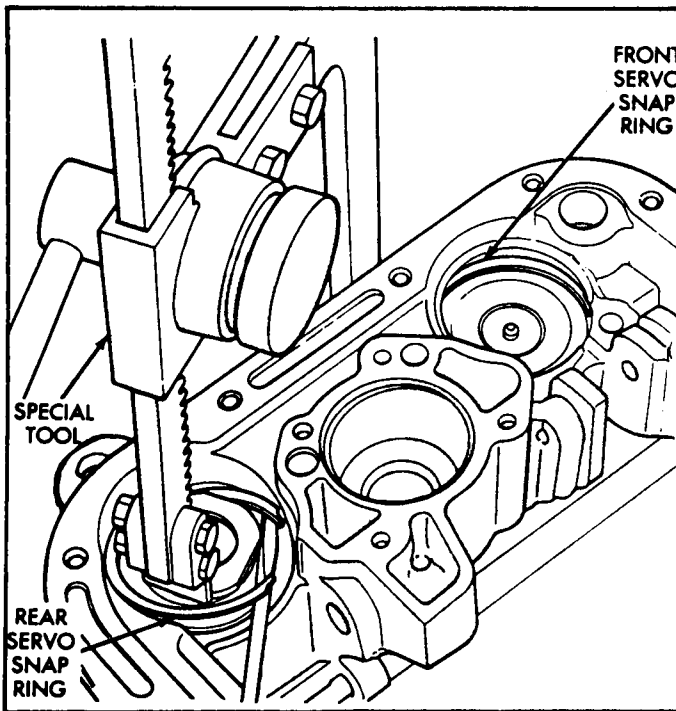

Figure 31
50. Compress the rear servo spring retainer about 1/16" with spring compressor, as shown in Figure 31, and remove the snap ring.